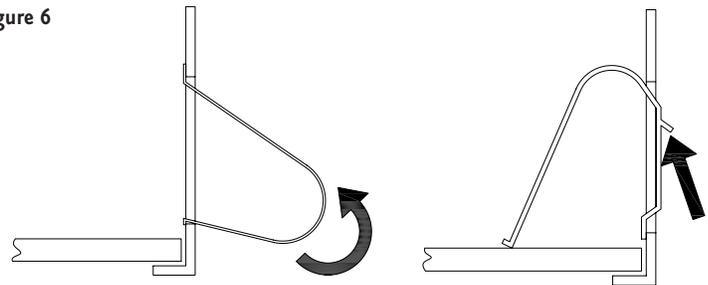

Figure 6
11. Hold fixture up against the ceiling and push clips through housing slot. To lock clip in place push flat portion against the side of the fixture using a flat head screwdriver (fig. 6).